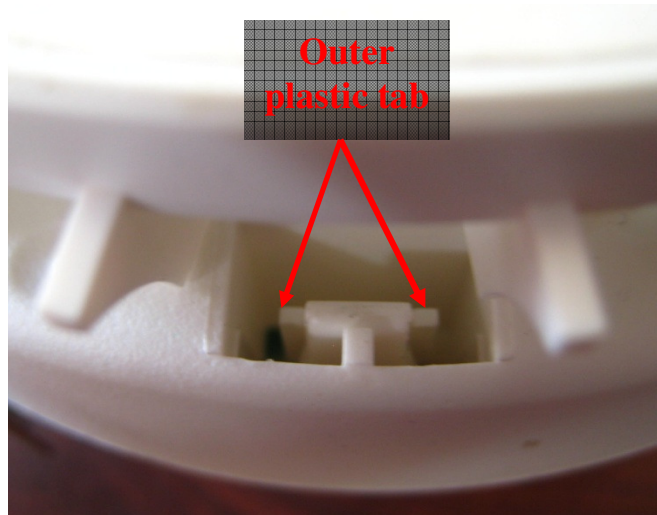

Figure 1. Location of one of the three outer plastic tabs on the underside of the UCB PM monitor.
- 1.2 Remove the lid of the monitor (the baseplate, used for wall mounting, must be removed before the lid can be removed). To remove the lid, use a small screwdriver (or other rigid, thin implement such as an unfolded paperclip) to press gently inward (towards the center of the monitor) on one of the three plastic tabs located on the underside of the monitor. Be sure to press on the lower, outer part of the tab. Simultaneously lift upward on the lid until it is released from that tab. Do this for each of the three tabs. The location of one of the three tabs is shown in **Figure 1** below. Note that since the tabs are plastic, care must be taken to avoid breaking them. After all three tabs are loosened, remove the lid from the base by continuing to lift it upward (**Figure 2**).